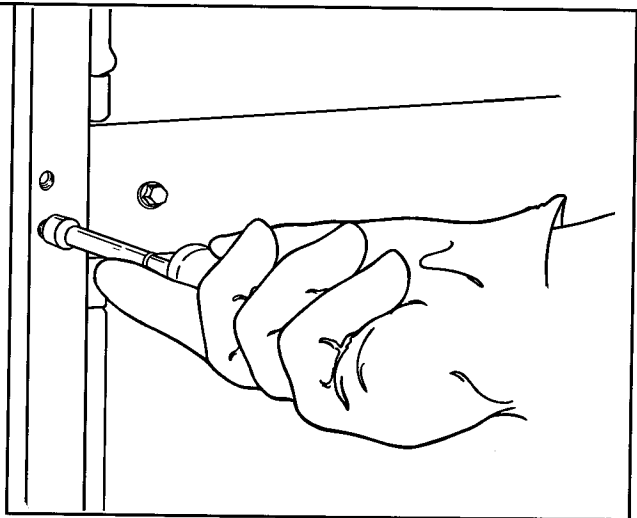

Figure 39
- a. Remove two outermost 5/16" hex head screws from **center left side** of cabinet and insert them in holes previously occupied by Phillips head screws on **center right side**. See Figure 39.